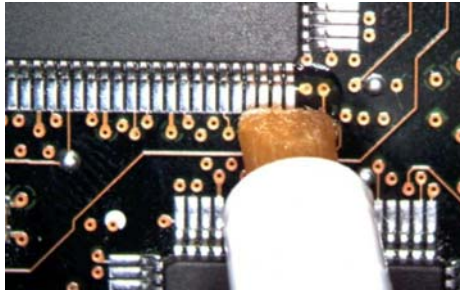

Figure 37 Applying Flux
- 3 Apply flux to your target leads as shown in Figure 37.
- 1 Apply flux to your target leads as shown in Figure 37.